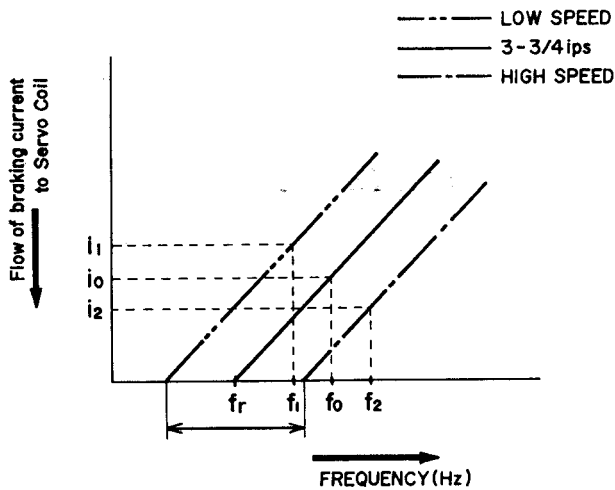

Fig. 29
6. In case of the capstan motor revolutions having reached the speed of  $n_2$ , the detector signal produced at the detector coil surpasses  $f_0$  and advances toward the higher  $f_2$  frequency. (See Figs. 29, 30) Accordingly, the flow of current to the servo coil increases, and because the electro-magnetic braking supplied to the capstan motor is increased, the capstan motor revolutions become slower, and normal revolutions are regained.
7. In case of the capstan motor revolutions having slowed to  $n_1$ , the detector signal produced at the detector coil drops to lower than  $f_0$  and descends toward the low  $f_1$  frequency. (See Figs. 29, 30) Accordingly, the flow of current to the servo coil decreases, and because the electro-magnetic braking supplied to the capstan motor is decreased, the capstan motor revolutions speed up and normal revolutions are regained.
As shown in Fig. 29, resonance frequency  $f_r$  (between the arrow mark) is changed by adjusting the dust core of discriminator coil L1 (VI2031SC-01). Accordingly,  $f_0$  is also changed between  $f_1$  and  $f_2$ , and the flow of braking current ( $i_0$ ) to the servo coil is also changed between  $i_1$  and  $i_2$ . Consequently, correct tape speed can be attained by using a tape speed measuring tape and a Frequency Counter and adjusting the dust core of coil L1.